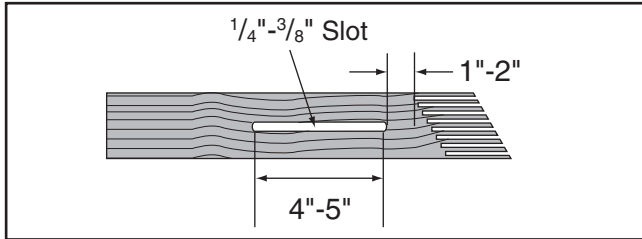

Figure 106. Slot routed in featherboard.
4. Rout a $\frac{1}{4}$ "– $\frac{3}{8}$ " wide slot 4"–5" long in the workpiece and 1"–2" from the short end of the featherboard (see **Figure 106**).